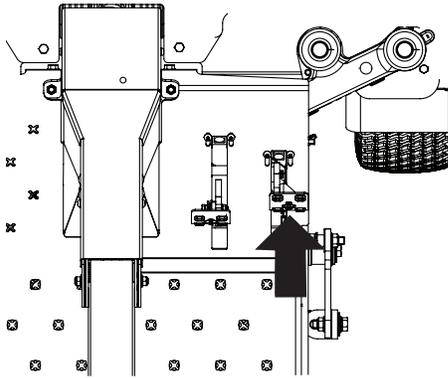

Figure 26
1. Slowly push the reverse drive pedal forward. The mower will start to move in the reverse direction (Figure 26).